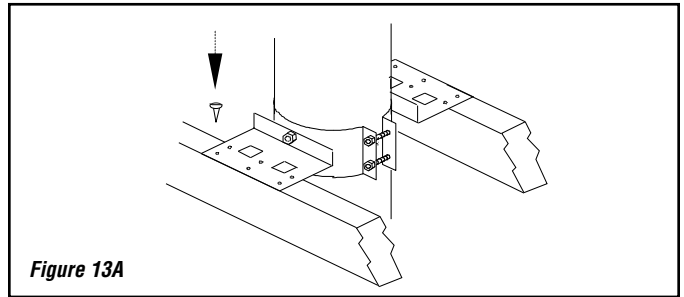

Figure 13A
- Step 1.** Install the insulated offset elbow on the vertical chimney length. Turn it in the required direction and fasten it to the chimney with the (4)-1/2" metal screws provided.
- Step 3.** Use another elbow to turn the chimney vertically. Again secure the elbow to the chimney length using the (4)-1/2" metal screws.
- Step 4.** Install the remaining chimney as described in the instructions for the roof support (*figure 13A, page 8*).
- Step 2.** Slip the support down over the stainless steel chimney until its brackets rest on the roof or floor. Tighten the collar around the chimney, then secure it by screwing the four 1/2" metal screws (supplied) through the holes located on each side of the collar bolts and into the chimney (**figure 13a**).
- Step 3.** Center the chimney and nail or screw the support to the roof or floor using (8) - 2-1/2" nails or (8) N°8 - 1-1/4" wood screws. (**figure 13a**).
- Step 5.** Install the roof radiation shields in the roof joists. These shields consist of four metal plates. Nail one plate to each side of the joist using (2) 2-1/2" nails.